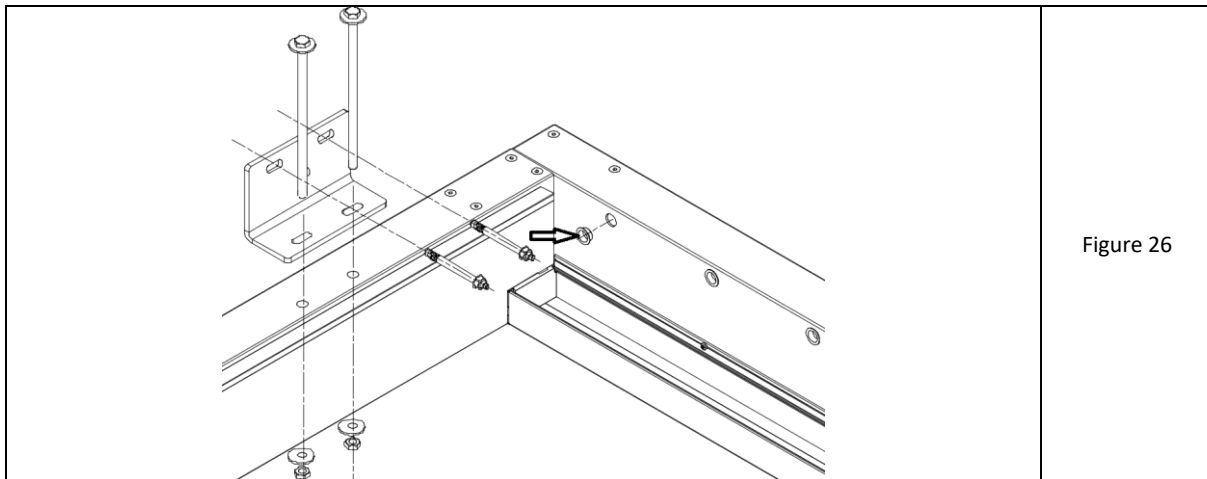

Figure 26
8. Stud the extreme large plastic sliding flanges on the extreme holes of both lengthwise beams - in the axis of both extreme blades (fig. 26-arrow). There are 4 such places.
10. Pre-install the wall brackets in the supported wall beam and screw them lightly using vertical M12x240 bolts with a washer and a self-locking nut (fig. 26). Pay attention to the allowed and forbidden positioning of the wall brackets (fig. 58 and 59).